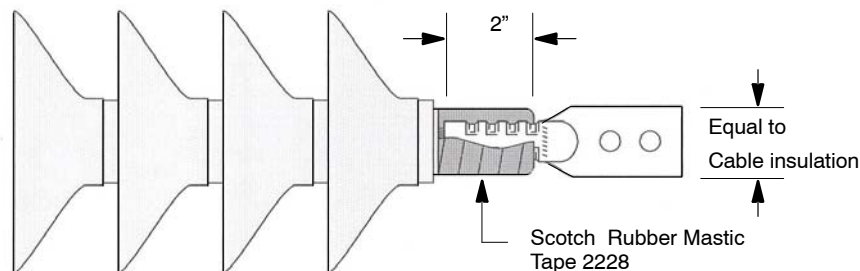

Figure 11
- 14. Wrap Scotch Rubber Mastic Tape 2228 half-lapped around the exposed conductor between the cable insulation and lug. Build the mastic up to the insulation O.D. Cover 2 inches of the lug barrel. (Figure 11)